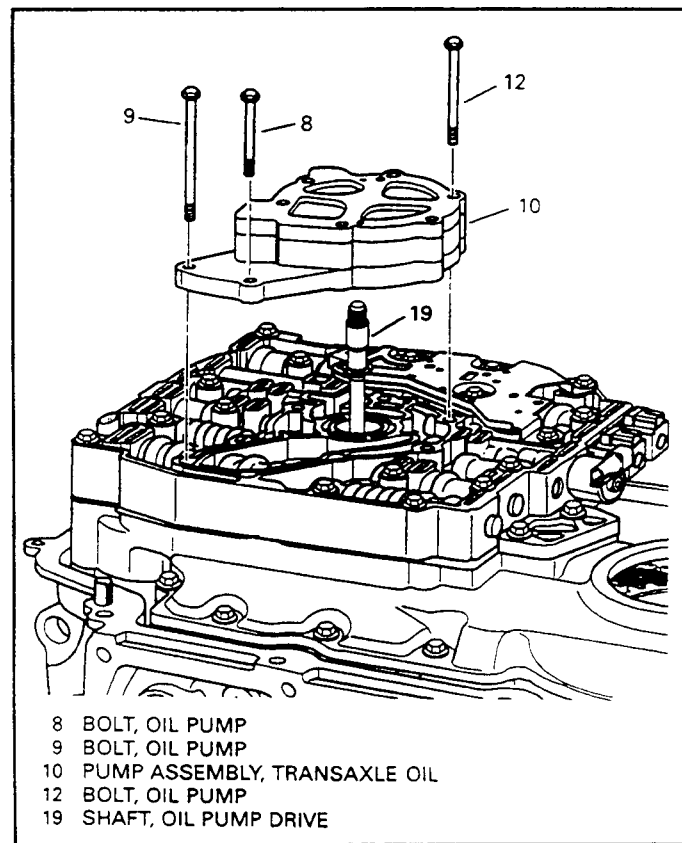

Figure 54
35. Remove the eight retaining bolts from the oil pump as shown in Figure 54.
36. Remove the oil pump assembly (10) as shown in Figure 54.
37. Remove the oil pump drive shaft (19) as shown in Figure 54.